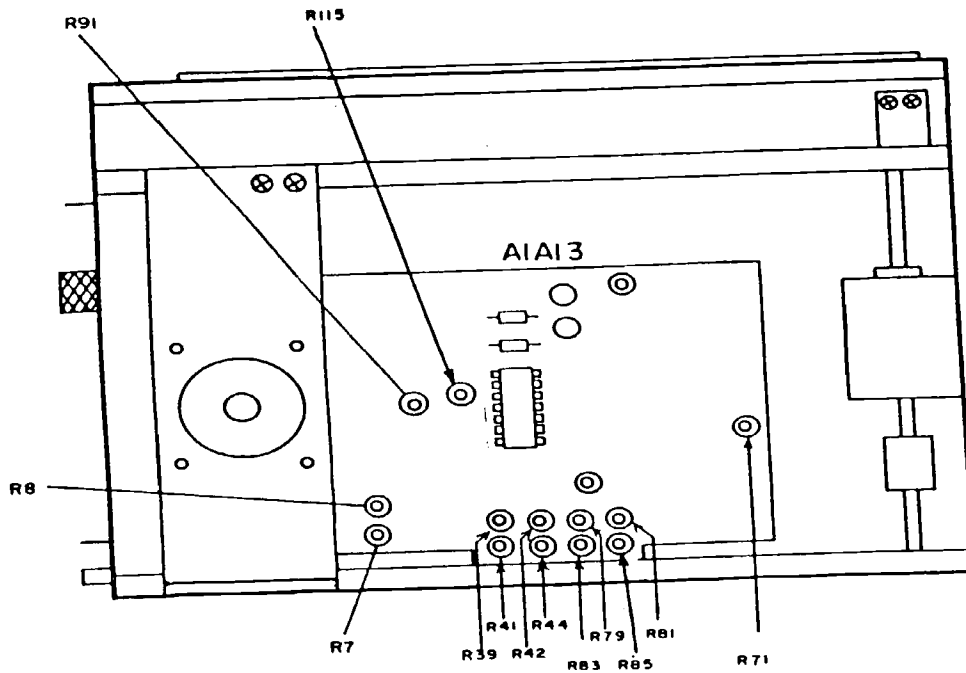

Figure 5. Test instrument - right view.
(1) Adjust A1A13R44 (fig. 5) for an oscilloscope indication of -10 kHz (R).
(2) Adjust A1A13R39 (fig. 5) until **FREQ ERROR** meter indicates 10 kHz (R).
(3) Adjust A1A13R44 (fig. 5) for best in-tolerance condition while repeating **a (1)** through (7) above (R).
(4) Adjust A1A13R41 (fig. 5) until **FREQ ERROR** meter indicates 4 kHz (R).
(5) Adjust A1A13R42 (fig. 5) until **FREQ ERROR** meter indicates 1 kHz (R).
(6) Adjust signal generator amplitude for -107 dBm.
(7) Set **RCVR WIDE-MID-NARROW** switch to **WIDE**.
(8) Adjust A1A13R7 (fig. 5) until **INPUT LEVEL** lamp (front panel) just illuminates (R).
(9) Set **RCVR WIDE-MID-NARROW** switch to **NARROW**. Adjust A1A13R8 (fig. 5) until **INPUT LEVEL** lamp just illuminate (R).
(10) Set **DEV-PWR** switch to **SIG**. Adjust signal generator amplitude to -25 dBm. Adjust A1A13R91 (fig. 5) until **DEVIATION/WATTS** meter indicates FS (R).
(11) Repeat (6) through (10) above as necessary.
- (1) Adjust A1A13R71 (fig. 5) until **DEVIATION (kHz)** meter indicates zero (R).
- (2) Set **GEN-RCVR** switch to **GEN** and adjust A1A13R81 (fig. 5) until **DEVIATION (kHz)** meter indicates zero (R). Set **RCVR-GEN** switch to **RCVR**.
- (3) Repeat (1) and (2) above as necessary.
- (4) Adjust **VAR** control until measuring receiver indicates **2 kHz**. Adjust A1A13R85 (fig. 5) until **DEVIATION (kHz)** meter indicates **2 kHz** (R).
- (5) Adjust **VAR** control until measuring receiver indicates 6 kHz. Adjust A1A13R83 (fig. 5) until **DEVIATION (kHz)** meter indicates **6 kHz** (R).
- (6) Adjust **VAR** control until measuring receiver indicates 20 kHz. Adjust A1A13R79 (fig. 5) until **DEVIATION (kHz)** meter indicates **20 kHz** (R).